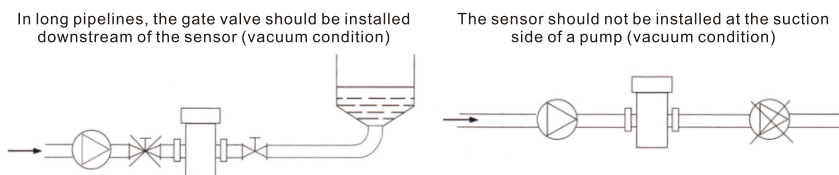

Figure 7-7: Sensor Installation
Electromagnetic flow sensors lined with Polytetrafluoroethylene (PTFE) are sensitive to vacuum pressure because the PTFE lining generally does not adhere to the sensor's measurement tube wall. A vacuum inside the pipeline can cause the PTFE lining to collapse and form a wavy, arched shape, a typical sign of negative pressure damage (M), which disrupts the electrode seal and can render the sensor inoperable. Therefore, PTFE-lined sensors should not be used in vacuum systems and should be installed away from locations where momentary vacuum conditions might occur. For instance, the sensor should not be installed at the suction side of a pump, and a gate valve should be installed downstream of the sensor, as shown in Figure 7-7.